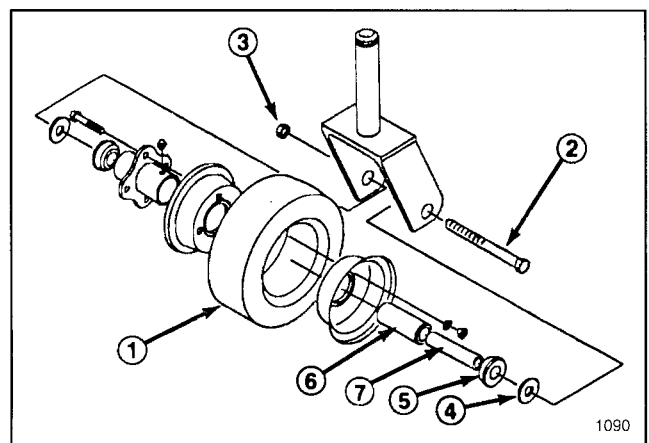

Figure 10
1. Remove lock nut and wheel bolt holding castor wheel between castor fork (Fig. 10).
4. Inspect bearing, spanner, bushing and inside of wheel hub for wear. Replace defective parts (Fig. 10).
5. To assemble place one (1) bushing into wheel hub. Grease bearing and spanner bushing and slide into wheel hub. Place second bushing into wheel hub.